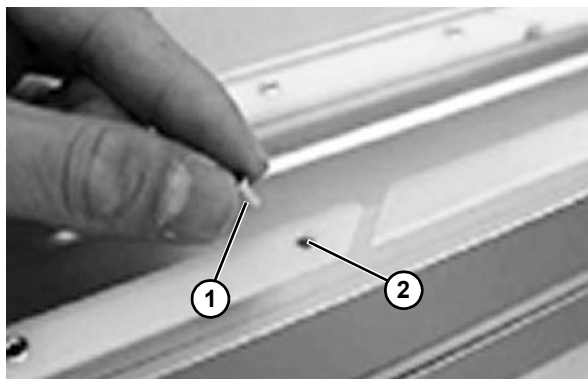

Figure 45
1. Insert the aluminum rivets (**Figure 45, item 1**) into the holes (**Figure 45, item 2**).